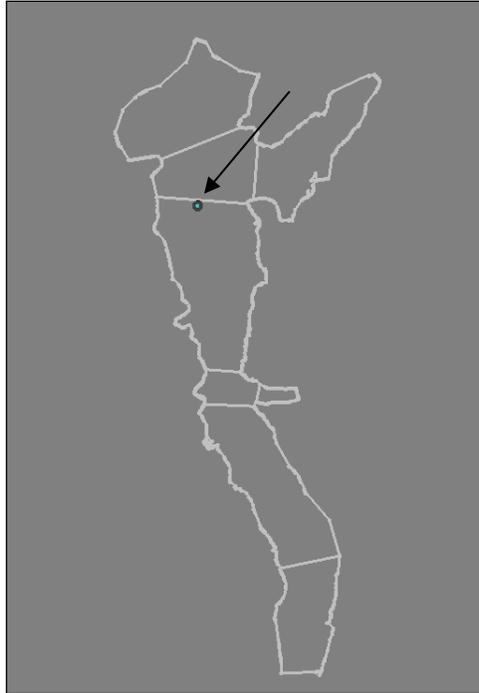

Figure 6 Insert node
2. Create a new node as shown in Figure 6 using the **Create Feature Point**  tool.